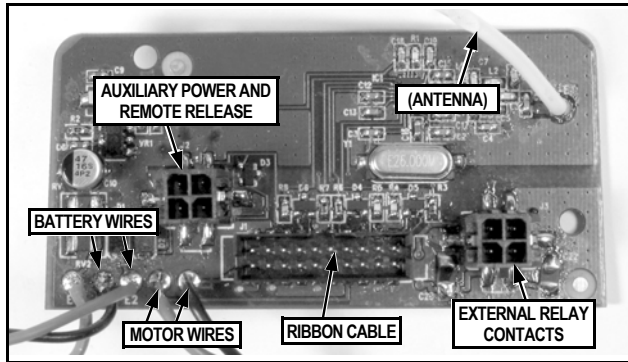

FIG. 14: RECEPTACLES LOCATED IN THE INSIDE HOUSING
- See Fig. 14. Before placing the inside housing onto the lock, plug the ribbon cable and the motor wire into their receptacles on the inside housing circuit board. **Note:** These plugs and sockets fit only one way—do not force them. Seal the connectors with dielectric grease (included). Do not allow the wires to cross or lay on top of each other. Jiggle the connector cable to be sure the wire opening does not pinch wires before fastening bolts.